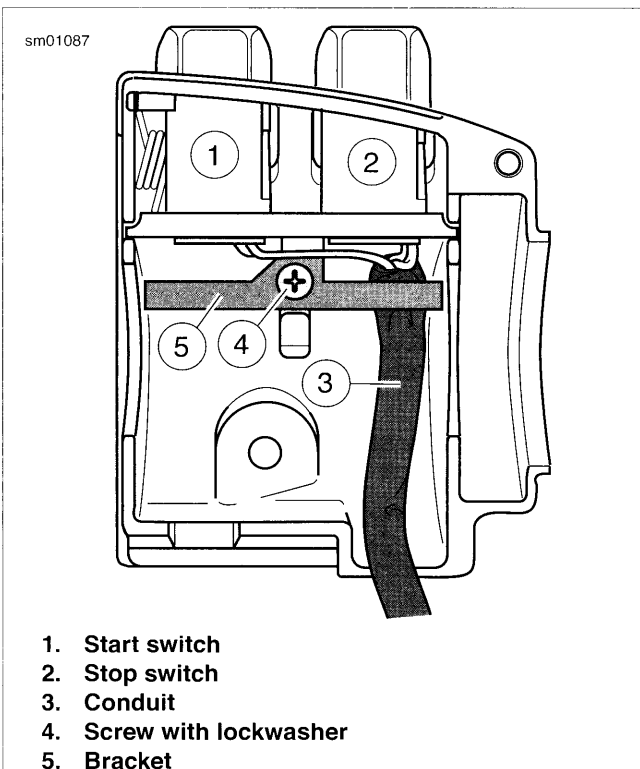
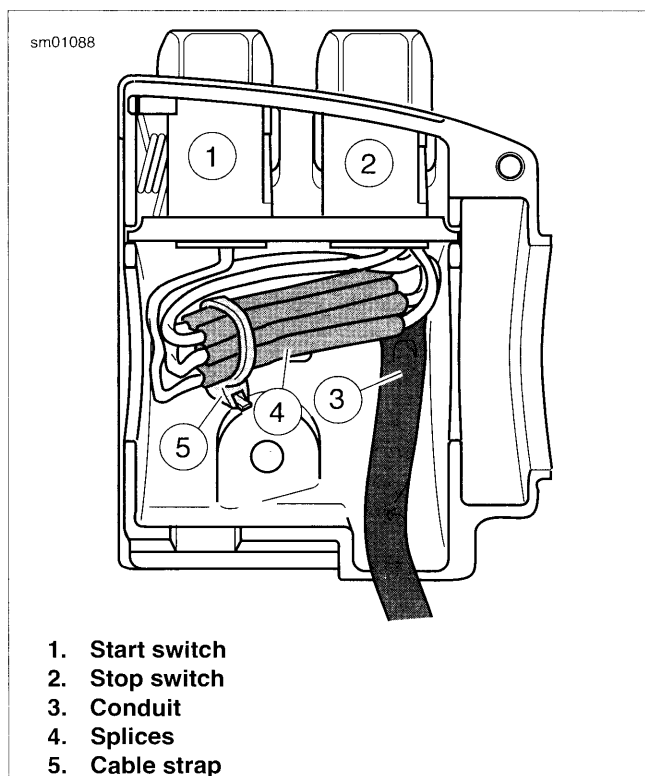

Figure 6-130. Upper Housing Without Splices
Figure 6-131. Upper Housing With Splices
- See Figure 6-130. From inside the switch housing, remove the screw with lockwasher (4) to release the bracket (5). Remove the bracket and switch assembly from the housing.
- Move cable conduit (3) from beneath wing of bracket. Cut wires 0.25 in. (6.4 mm) from old switches (1, 2). Discard old switch and bracket assembly.
- Slide conduit forward over cut ends of switch wires and cut off 0.5 in. (12.7 mm) of conduit (3) material. Push conduit back to access switch wires.
- See Figure 6-131. Separate **new** engine stop switch (2) and engine start switch (1) wires into two bundles.
- Loop switch wires so that spliced lengths are positioned as shown in Figure 6-131. Route wires downstream of splices beneath wing on engine stop switch side of bracket as shown in Figure 6-130.
- See Figure 6-131. Install a **new** 7.0 in. (177.8 mm) cable strap (5) beneath wing on engine start switch side (1) of bracket and capture wire splices (4).
- See Figure 6-130. Install screw and lockwasher (4) to secure bracket (5) inside housing. Verify that wing on engine stop switch (2) side of bracket captures edge of conduit (3) as shown.